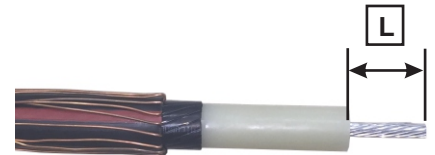

Fig.12
- 7. End the cut.** Adjust the blade angle to 0°. Rotate the tool one additional turn to end the cut and square off the insulation. (Fig.12)